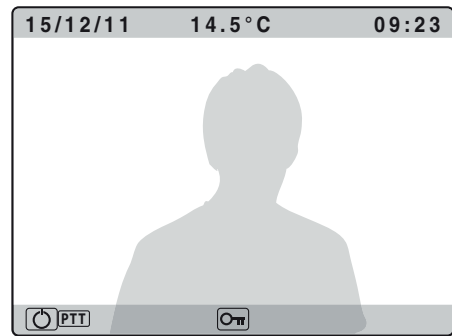

Fig.3a
- To switch from hands free to push to talk mode, keep pressed the  until the related LED starts to flash slowly Fig.3a. Keep pressed the  button to talk to the visitor (the LED flashes quickly) and release the button (the LED flashes slowly) to listen the visitor;
3. As shown in figure 3a\*, once the wires are connected, fix the videophone to the wall using a Phillips screwdriver and the two screws provided.